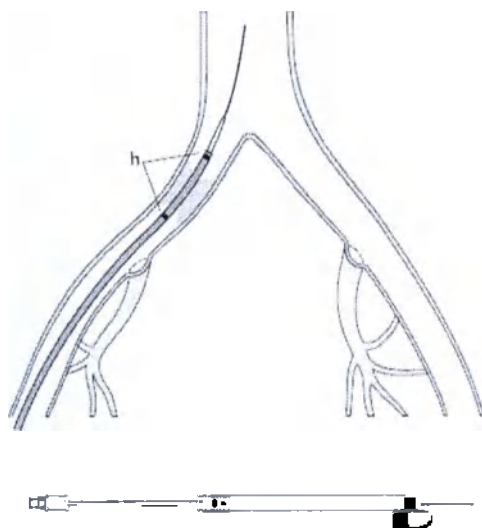

Fig. 2
9. Place the delivery system under fluoroscopy to determine that the radiopaque markers on the delivery system (h) are at the desired position. The stent is now ready to be deployed (Fig. 2).